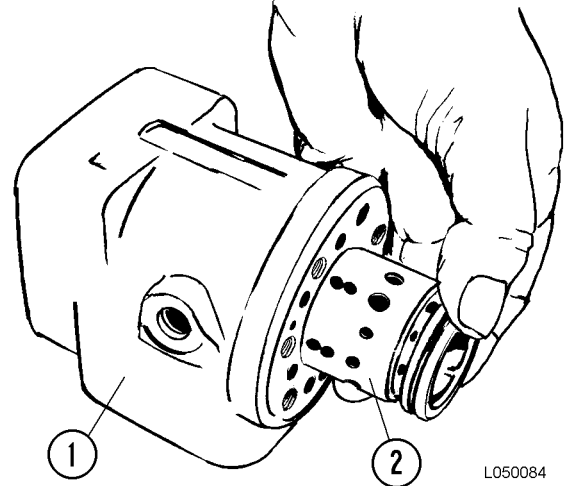

FIGURE 5-11. SPOOL INSTALLATION
9. Position the steering control unit with the housing horizontal. Slowly guide the (lubricated) spool and sleeve with fitted parts into the bore using light turning movements. Refer to Figure 5-11.